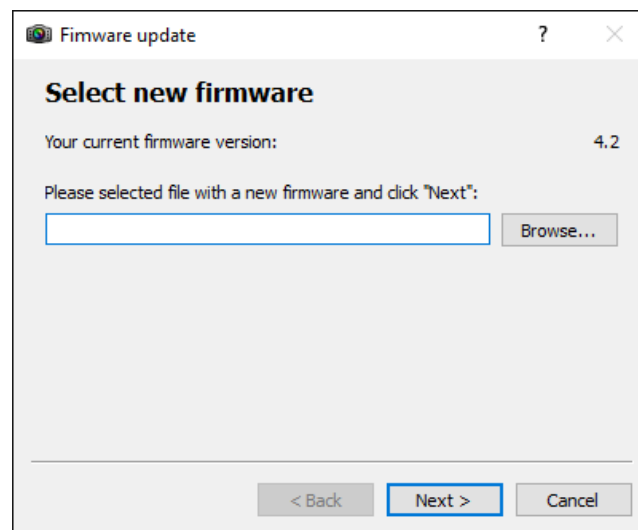

Figure 8 : Firmware Update selection window
7. Click “Browse...” button, as shown in Figure 8, and select the desired firmware version, in accordance with the device chosen (.bin file extension), and Click “Next >” button. Please, Contact KAYA Instruments’ representative for any question.